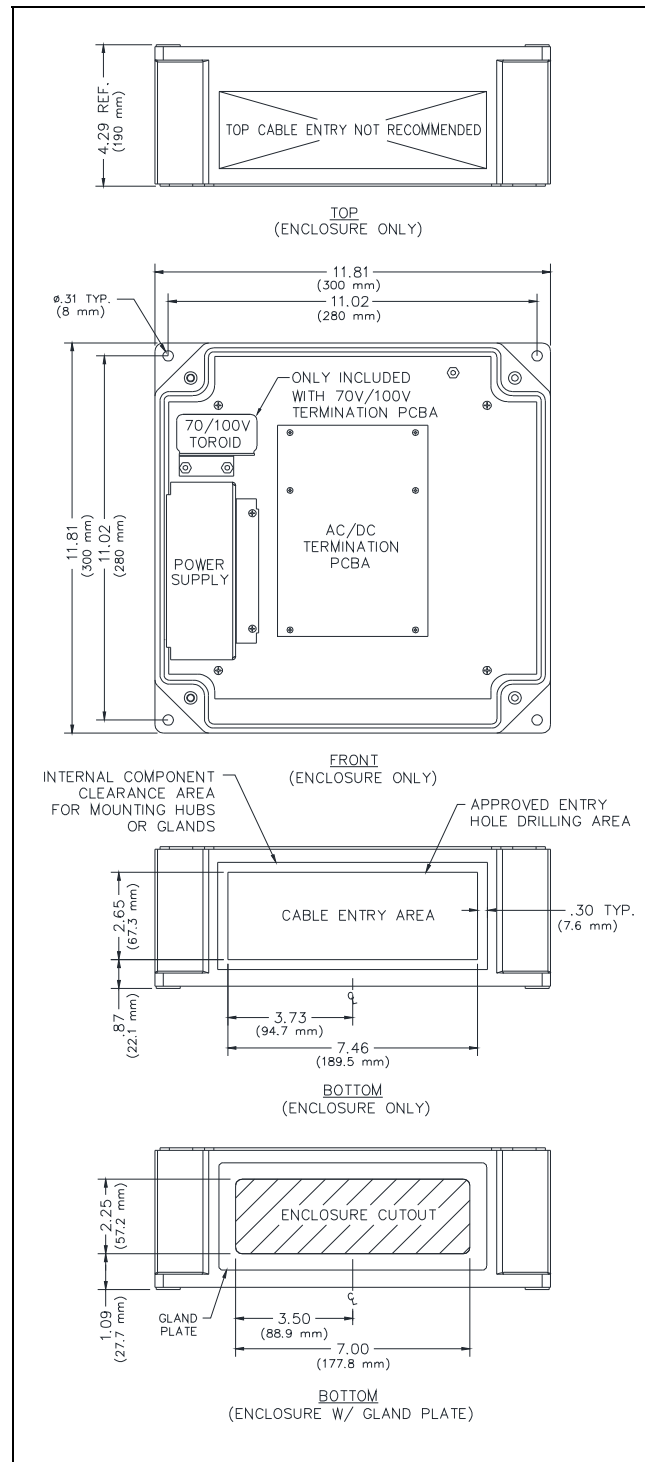

Figure 2. Mounting Details and Suggested Cable Entry Locations
1. Mount the enclosure using the four 0.31-inch (8 mm) diameter holes located on the mounting flanges with 5/16-inch (M6) hardware (see Figure 2).
4. Drill or punch wire entry openings in the rear enclosure or gland plate (see Figure 2).